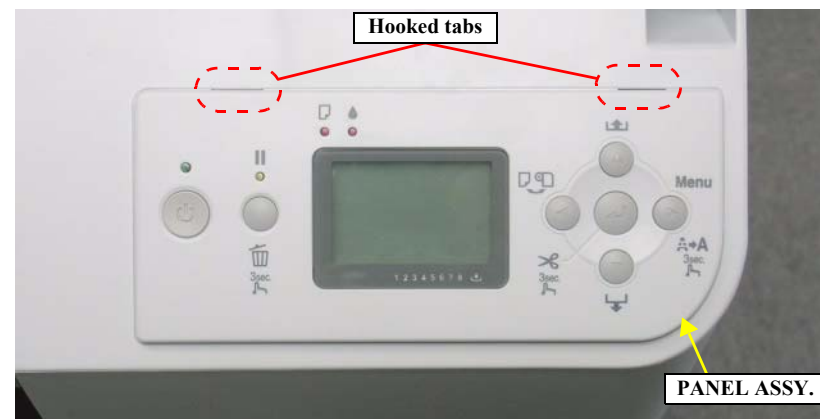

Figure 4-16. Hooked Tabs for Securing the PANEL ASSY.
2. Release the two hooked tabs that secure the PANEL ASSY. from the inner side, and remove the PANEL ASSY. See Figure 4-16.